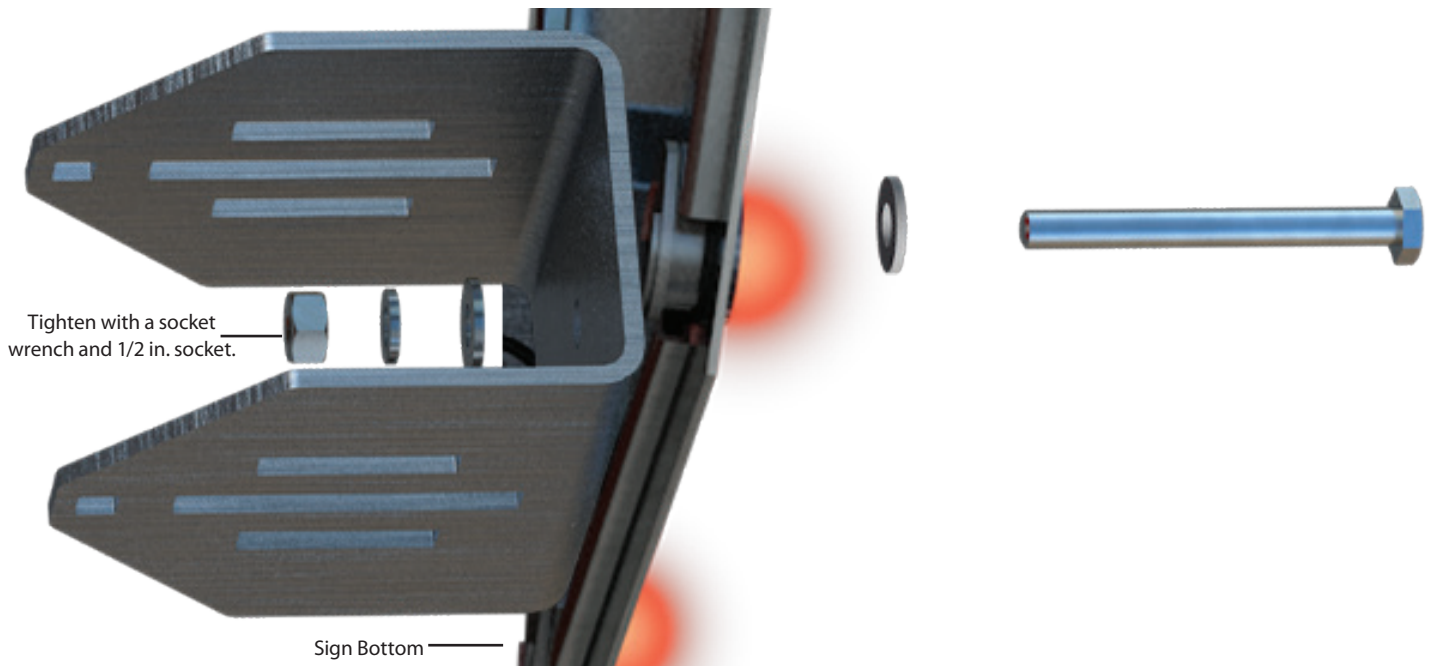

Figure 3
**A.2** Use the hardware from **Bag 2** to fasten the male bracket to the bottom of the sign as shown in Figure 3.